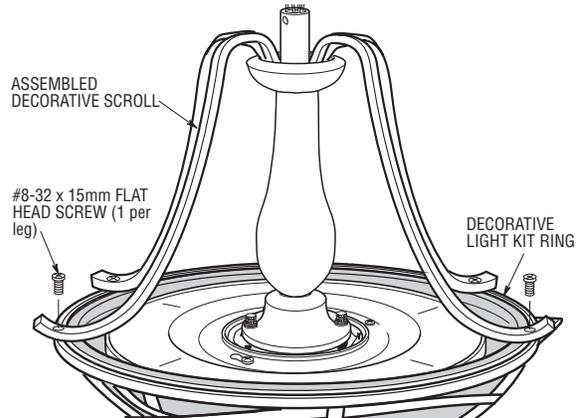

Figure 19
- 3. Slide the assembled decorative scroll over the 12" downrod and position each scroll leg on the decorative light kit ring (Figure 19). Secure each of the four decorative scroll legs using four #8-32 x 15mm flat head screws (supplied).